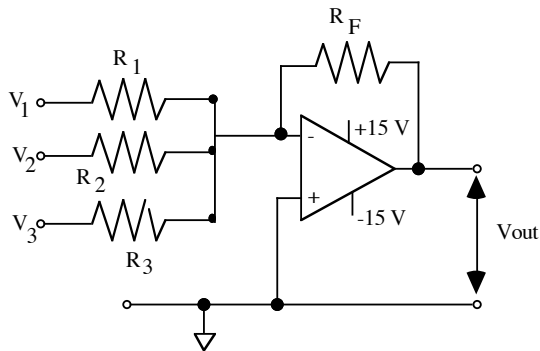

Figure 2. Summing Amplifier
The Summing Amplifier, shown in Fig. 2, is a very flexible circuit based upon the standard inverting op-amp configuration that can be used for combining multiple inputs. The standard inverting amplifier has a single input voltage, V_{in} , applied to the inverting input terminal. If we add more input resistors to the input, the circuit can become a voltage adder with different gain for each input. There are many applications for summing amplifiers including audio mixers and digital to analog converters. Using the Golden Rules we can determine the transfer function listed below.
Question 2	<p>Summing Amplifier – Digital to Analog Converter</p> <ol style="list-style-type: none"> a. Design a three input summing amplifier (Fig. 2) that can create an analog voltage of integers from 0 to -7 volts ($V_{out} = 0, 1, 2, 3, 4, 5, 6, \text{ and } 7$) using only two possible input states on each input ($V_{low} = 0 \text{ V}$ and $V_{high} = 1$). Draw a schematic of your circuit and label all the resistors. HINT: Write down the binary numbers from 000 binary = 0 in decimal to 111 binary = 7 in decimal. Think about the relative values of R_1, R_2, and R_3. b. Draw a table that lists the input voltages and corresponding output voltages to create $V_{out} = 0, 1, 2, 3, 4, 5, 6, \text{ and } 7$.
Step 2	<p>Summing amplifier – first tests</p> <ol style="list-style-type: none"> Modify your basic inverting op-amp circuit to make it a summing amplifier as shown in Fig. 2. Use the component values you determined in your lab prep for the resistors. Check with an instructor to see that these values make sense. Draw the schematic in your lab book and label all components. Measure the resistors before inserting them into your circuit and record the values. Determine the transfer function for your exact component values. What is V_{out} in terms of V_1, V_2, and V_3? Confirm your summing amplifier is working according to your model by measuring V_{out} for any set of V_{in} voltages. Predict the output voltage for your set of test input voltages and measure V_{out}. What is the best available measurement device to make these measurements? Why did you choose that device? Does your measurement agree with your prediction?